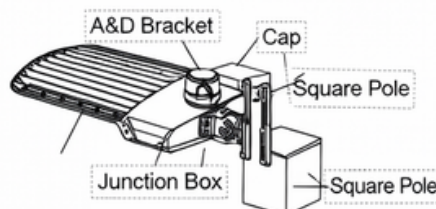
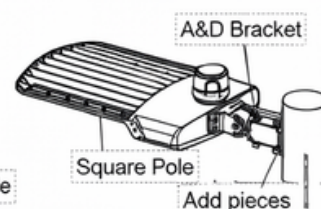

Figure 16
Figure 17
Step 2: Fix ADM bracket to square pole with bolt, open the cover of ADM bracket junction box, connect the wire prop and cover the junction box. (Figure 16)
Notice: Adjustable angle is 0-90°(Figure 16), remember to use the adapting plate for round pole installation (Figure 17)